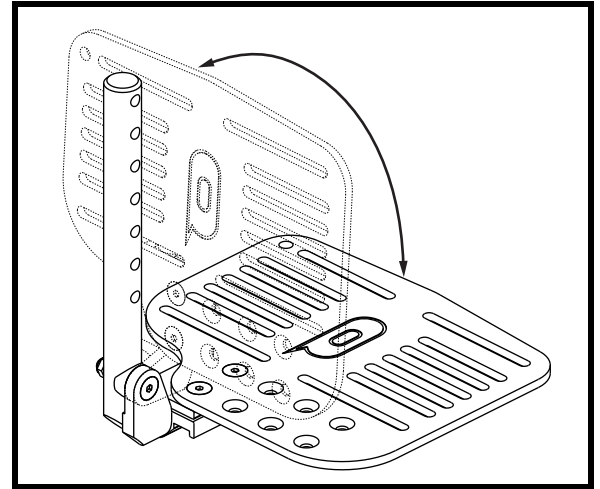
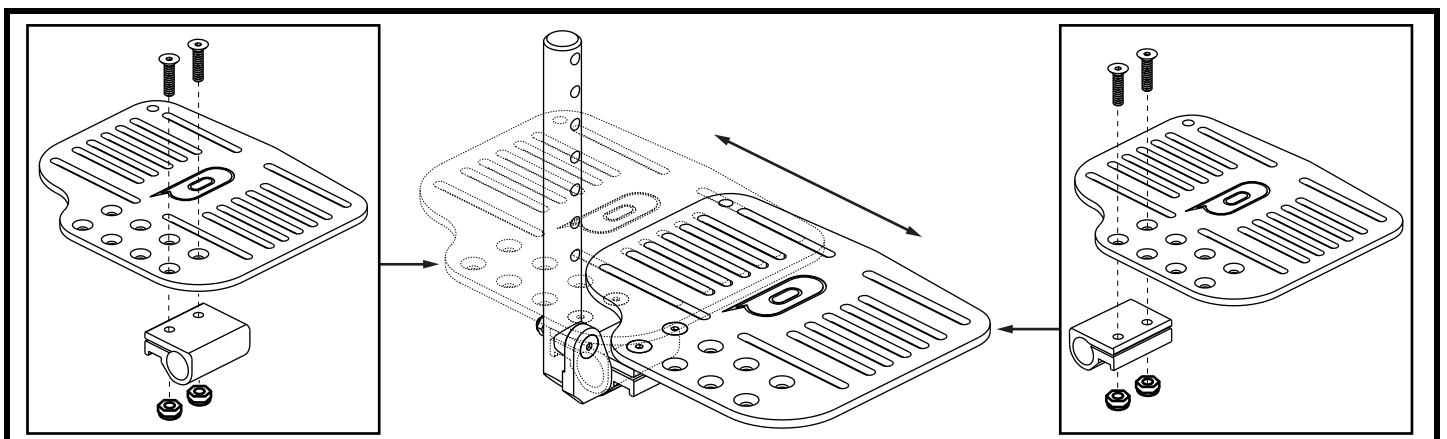

Figure 23. Foot Plate Flip Up Adjustment
Figure 25. Foot Plate Depth Adjustment
The angle adjustable foot plates have two adjustments: angle and depth. The depth can be adjusted to four (4) positions in 2.5 cm (1-in.) increments. If the position of the foot plate adapter is reversed, an additional 2 cm (0.75 in.) of depth can be achieved at the most forward and most rearward positions. See **figure 25**. The foot plates can also be flipped up for ease of transfer. See **figure 23**.
1. Remove the screws and nuts from the foot plate assembly. See **figure 25**.
3. Reposition the foot plate on the foot plate adapter to achieve the desired depth. See **figure 25**.